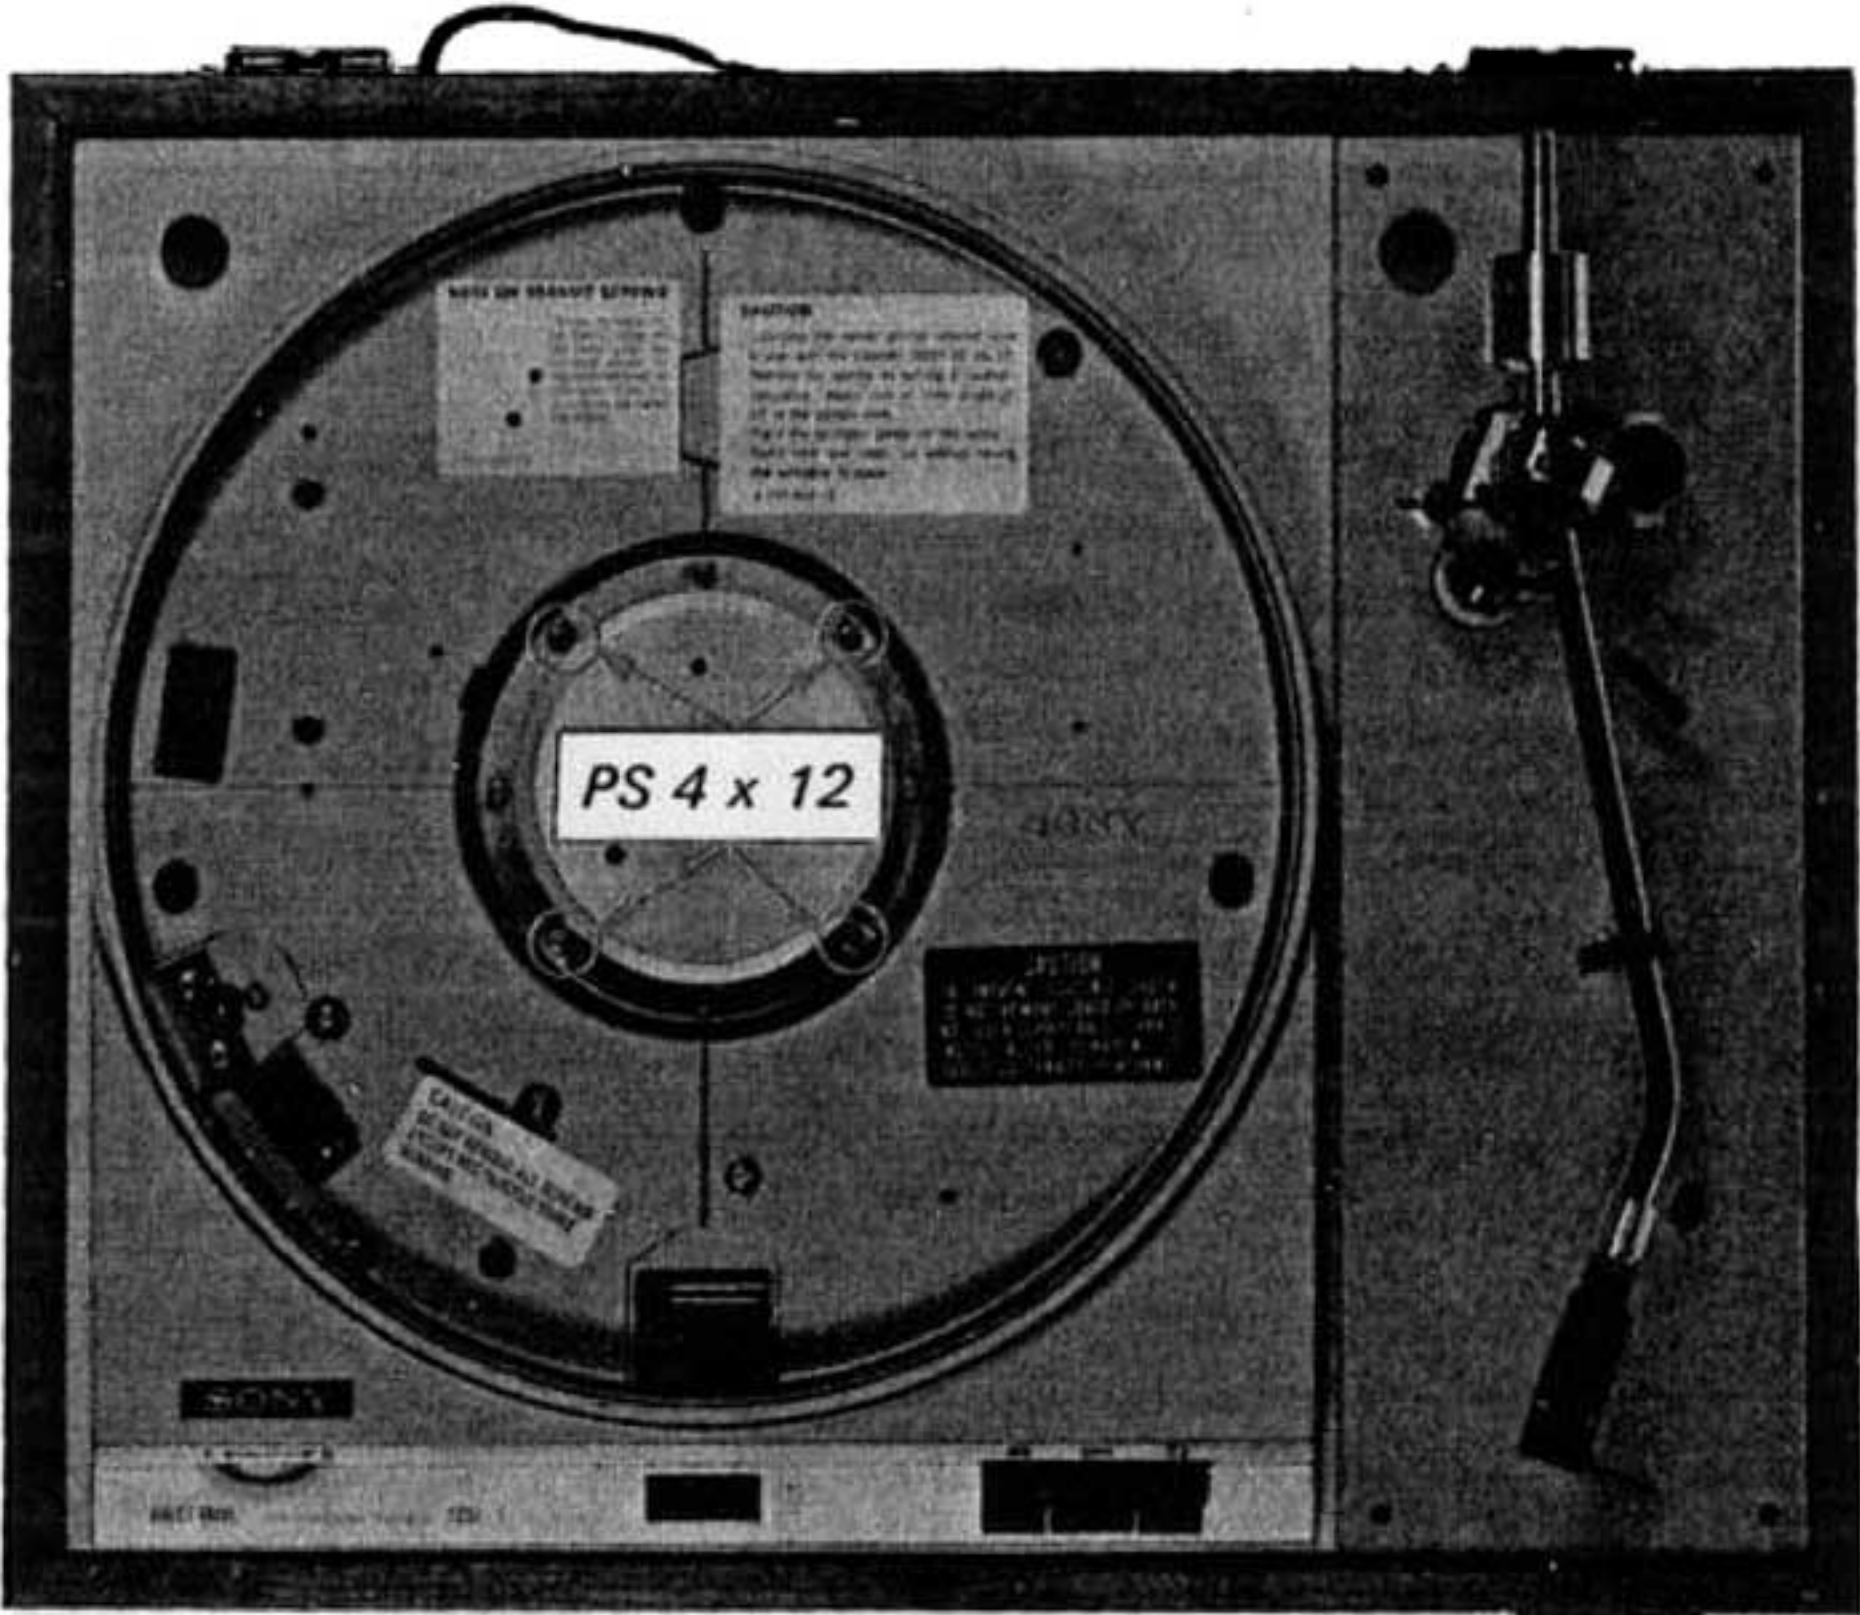

Fig. 2-6. Motor replacement
- 3. Unsolder the motor lead wires at the terminal strip, and then remove the four screws (PS 4 x 12) from the top as shown in Fig. 2-6.